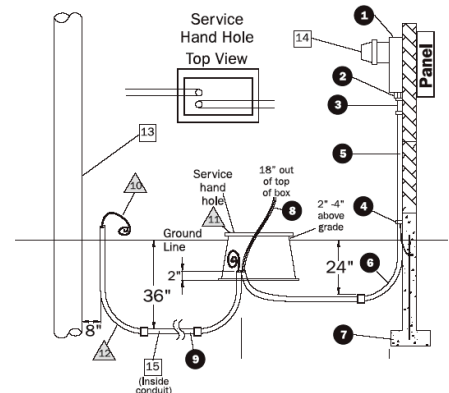

Figure 5: Surface mounted base with pole
- Surface mounted (see Figure 5)